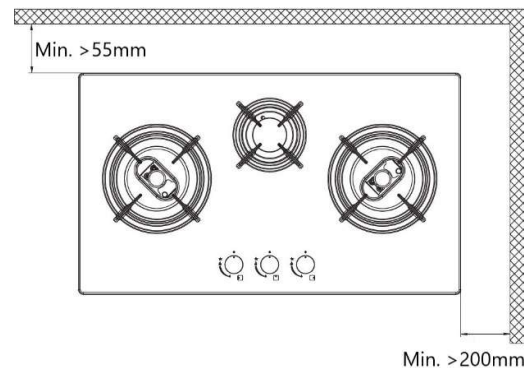

Figure 1.4
- Kitchen cabinets adjacent to the appliance and higher than the top of the hob must at least 200mm from the edge of the hob (refer to Figure 1.4).